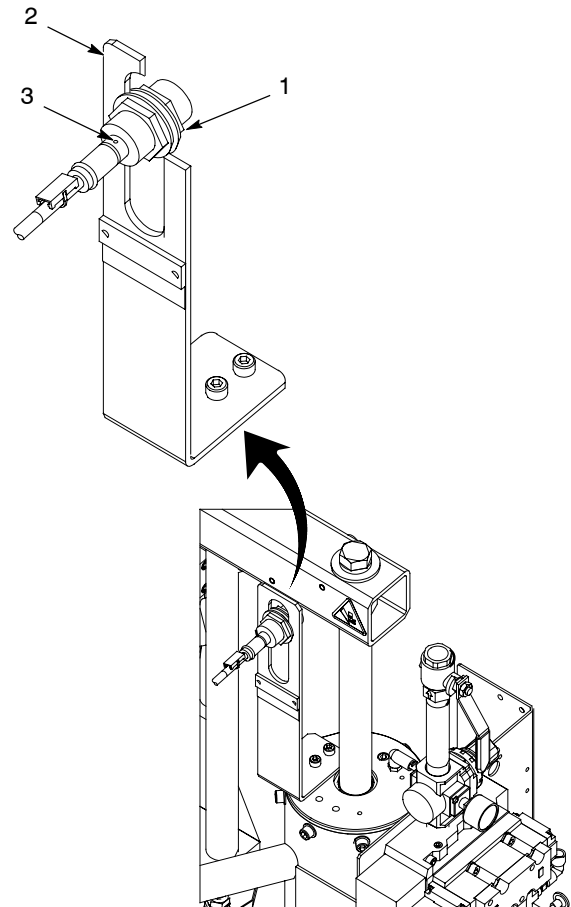

Figure 5 Changing and Resetting the low Level Signal
4. See Figure 5. Loosen the nut (1) securing the proximity sensor to the bracket (2). Move the proximity sensor until the LED (3) illuminates. Tighten the nut securely.